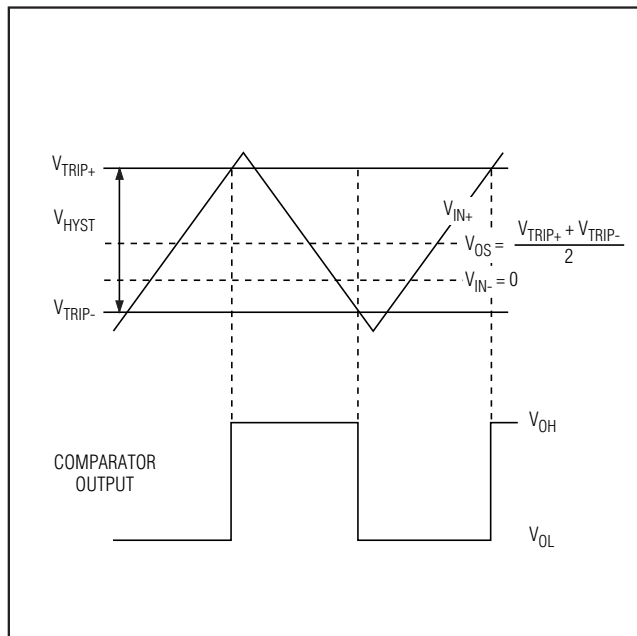

Figure 1. Input and Output Waveform, Noninverting Input Varied
**Note 4:**  $V_{OS}$  is defined as the center of the input-referred hysteresis zone. See Figure 1.
**Note 5:** The input-referred trip points are the extremities of the differential input voltage required to make the comparator output change state. The difference between the upper and lower trip points is equal to the width of the input-referred hysteresis zone. See Figure 1.
The hysteresis in a comparator creates two trip points: one for the rising input voltage and one for the falling input voltage (Figure 1). The difference between the trip points is the hysteresis. The average of the trip points is the offset voltage. When the comparator's input voltages are equal, the hysteresis effectively causes one comparator input voltage to move quickly past the other, thus taking the input out of the region where oscillation occurs. Standard comparators require hysteresis to be added with external resistors. The MAX9140/MAX9141/MAX9142/MAX9144's fixed internal hysteresis eliminates these resistors. To increase hysteresis and noise margin even more, add positive feedback with two resistors as a voltage divider from the output to the noninverting input.
Figure 1 illustrates the case where  $IN^-$  is fixed and  $IN^+$  is varied. If the inputs were reversed, the figure would look the same, except the output would be inverted.